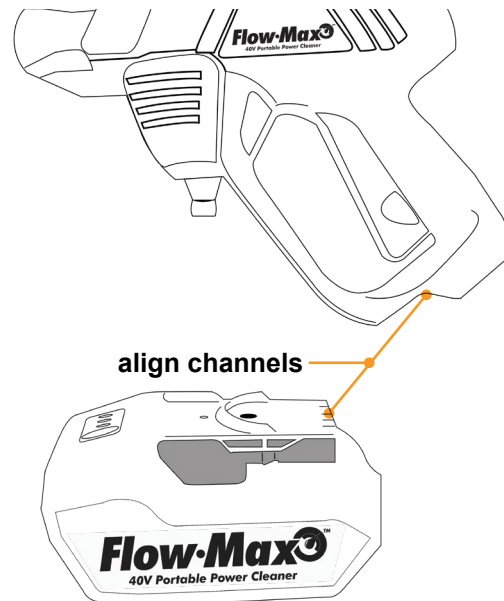

Fig.11
1. Align handle assembly with the channels on the battery pack (Fig.11).